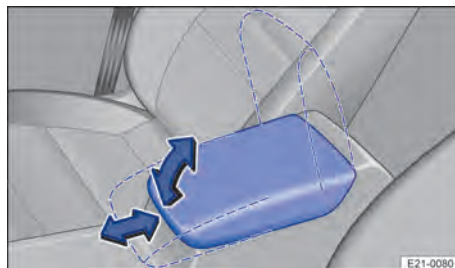

Fig. 80 Between the front seats: Centre armrest.
1. *Lifting*: pull the centre armrest gradually upwards in the direction of the arrow → Fig. 80.
3. *Adjusting in longitudinal direction*: move the centre armrest forwards or backwards → Fig. 80.